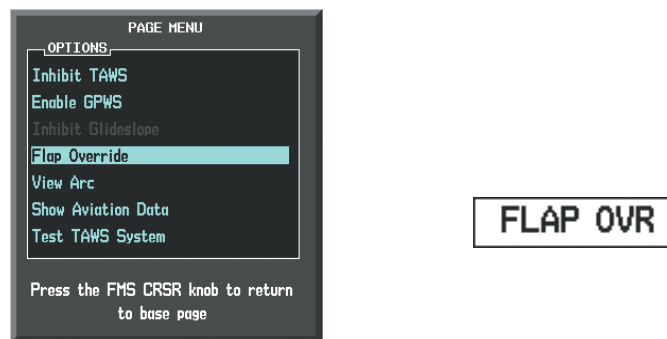

Figure 6-98 TAWS-A Page Menu and FIT Flap Override Annunciation
- 1) Press the **MENU** Key. (Figure 6-98)
When the Flaps Override option is enabled, the annunciation ‘FLAP OVR’ is annunciated on the PFD and on the TAWS-A Page of the MFD (Figure 6-98). If GPWS alerts are also inhibited (which include FIT), the ‘FLAP OVR’ annunciation is not shown.